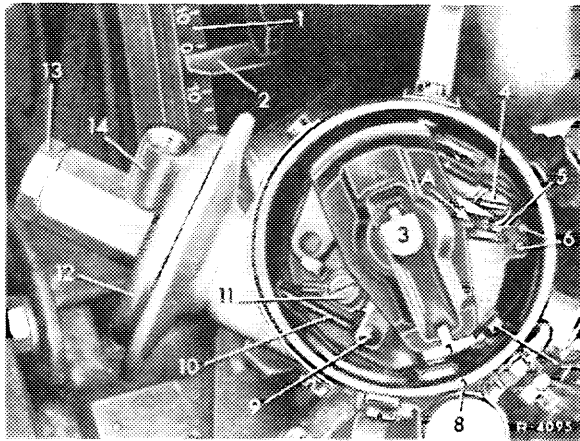

Fig. 00-6/1 R-4095
For this purpose, unscrew cheese head screws (4 and 11) and remove angle bracket (9). Loosen nuts of terminal 1 and pull out cable shoe (7) (Fig. 00-6/1).
On ignition distributors with protective casing (1), remove protective casing (Fig. 00-6/3).